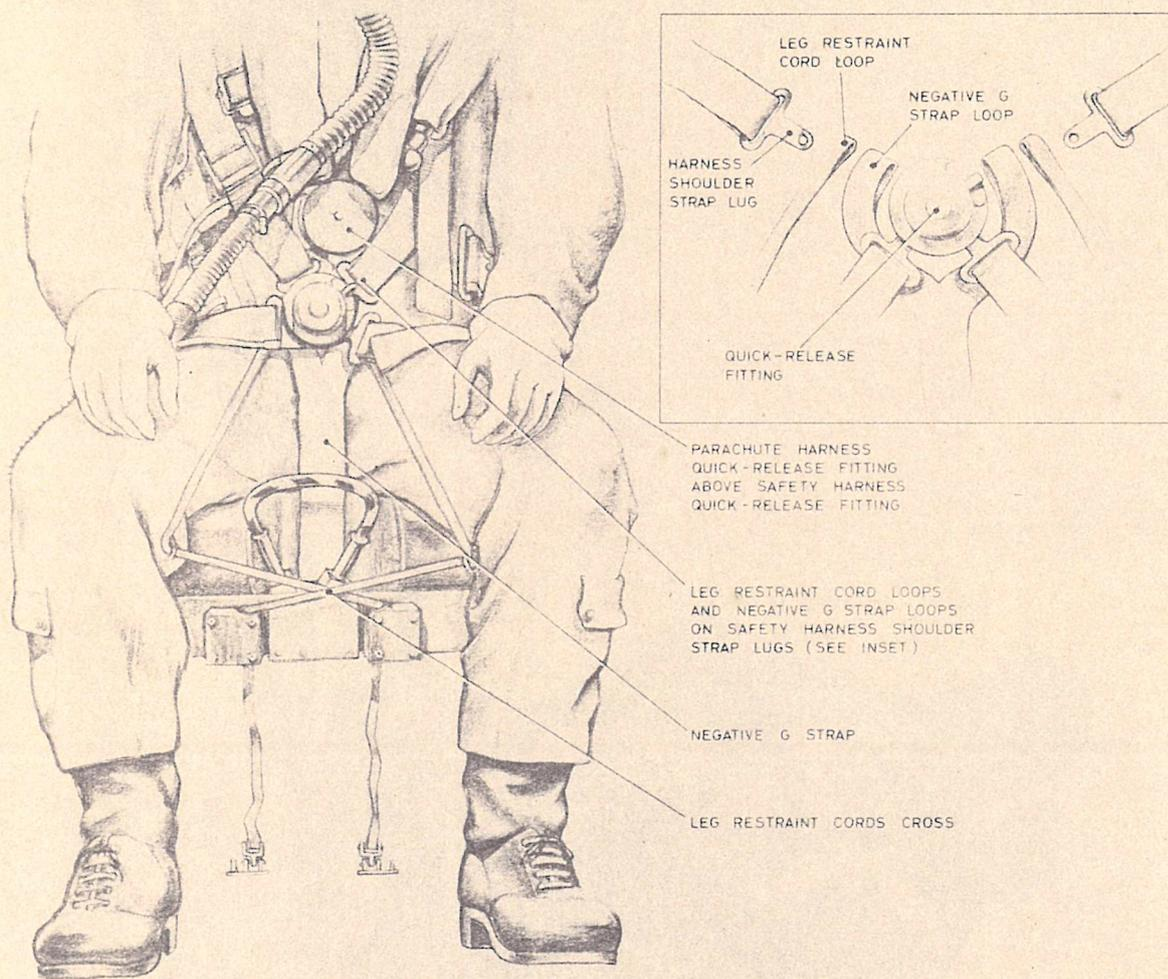

Fig. 4. Arrangement of leg restraint cords (inset: Assembly to quick-release fitting)
23. The strapping-in procedure is as follows; refer to fig. 4 to 6 for detail as necessary:-
- (6) Pass the parachute harness leg straps through the leg loop and couple the lugs to the quick-release fitting.
- (7) Adjust the quick-release fitting so that it lies centrally with the waistbelt close to the body.
- (8) Tighten the shoulder straps first so that the parachute harness quick-release fitting will lie above and clear of the safety harness quick-release fitting when assembled.
- (9) Tighten the parachute harness leg straps. When tightening harness straps, pull on the running end with one hand and push on the standing end with the other hand to relieve the tension on the buckles.
- (10) Connect the air supply hose to the air ventilated suit (if worn).
- (11) Fasten the lap straps of the safety harness but do not tighten.
- (12) Draw the negative-G restraint strap up between the legs and tuck the V-shaped end under the safety harness. Ensure that the negative-G restraint strap is clear of the seat pan firing handle.
- (13) Thread the leg restraint cords through the quick-release coupling rings on the garters as follows :-
- (a) Pass the cord emerging from the snubbing unit behind the left leg through the garter ring on the right leg and UNDER the safety harness lap strap. Insert the lug of the safety harness right shoulder strap through the loop at the end of the leg restraint cord and also through the loop at the end of the right branch of the negative-G restraint strap. Secure the lug in the quick-release fitting (see inset of fig. 4).